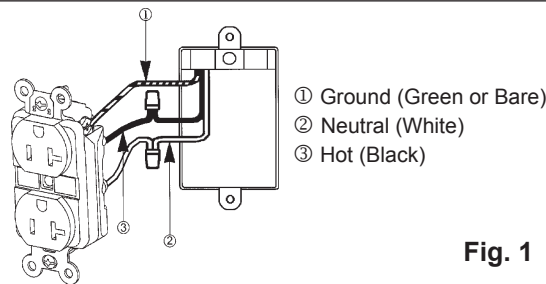

Fig. 1
- The green grounding conductor or a grounded metallic Raceway (See Fig. 1). Tighten green grounding terminal screw to 9-12 lb·in (1.0 - 1.4 N·m) torque.